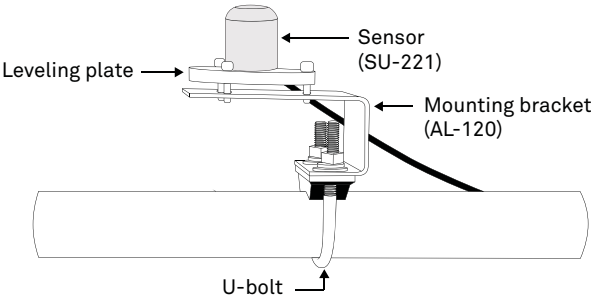

Figure 2 Apogee UV sensor installed on mast or pipe
- 3. Mount the sensor to the leveling plate (Figure 2) with the included nylon screw.
- 5. Attach the mounting bracket either to a horizontal arm (Figure 2) or vertical post using the included U-bolt.